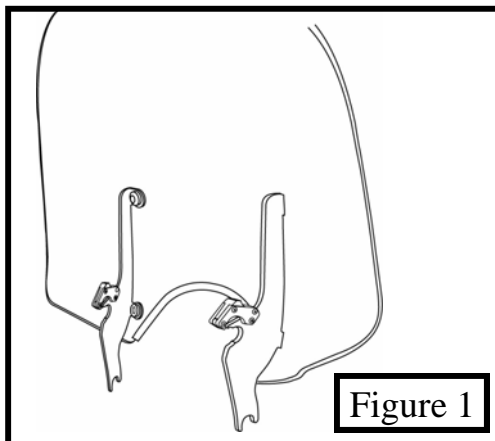

Figure 1
2. Install the windshield mounting plates onto the windshield, using the bolts that are pre-assembled on the mounting plates. The Santoprene grommets should be inserted through the holes in the windshield so that the flat round part lies flat on each side of the plastic. *NOTE: Tabs will point in towards headlight when properly installed.* (see Figure 1)